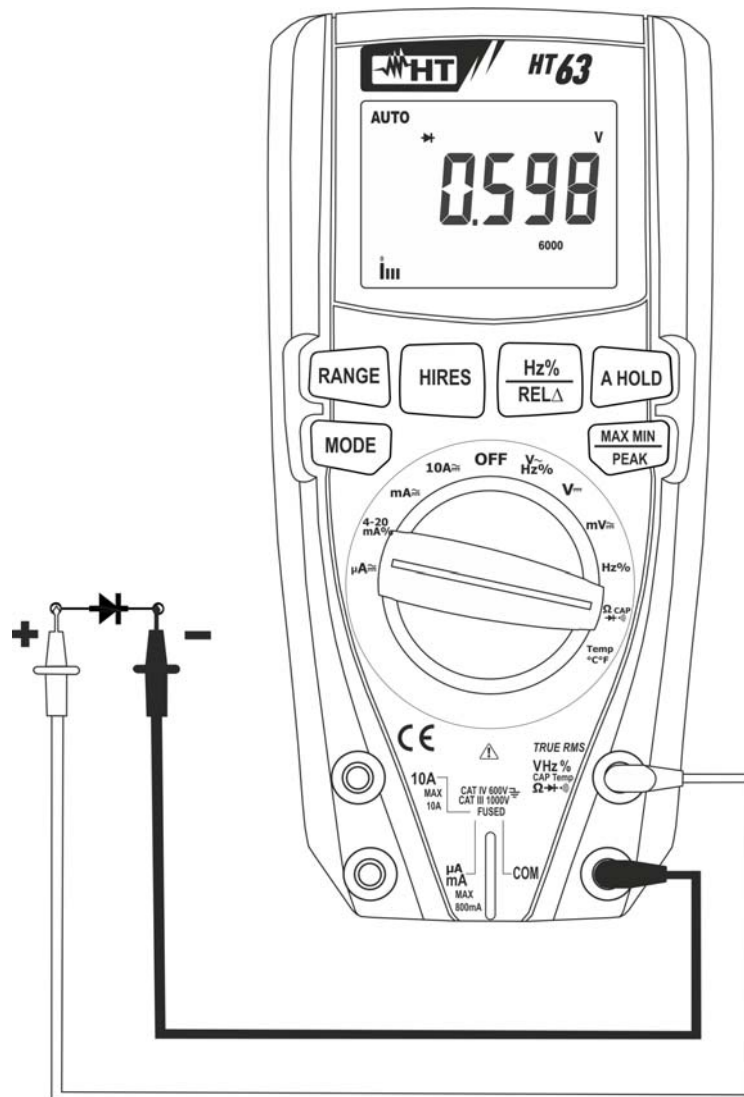

Fig. 6: Use of the instrument for diode test
4. Position the leads at the ends of the diode to be tested (see Fig. 6), respecting the indicated polarity. The value of directly polarized threshold voltage is shown on the display.
6. If the display shows the message “**O.L.**”, the terminals of the diode are reversed with respect to the indication given in Fig. 6 or the P-N junction of the diode is damaged.